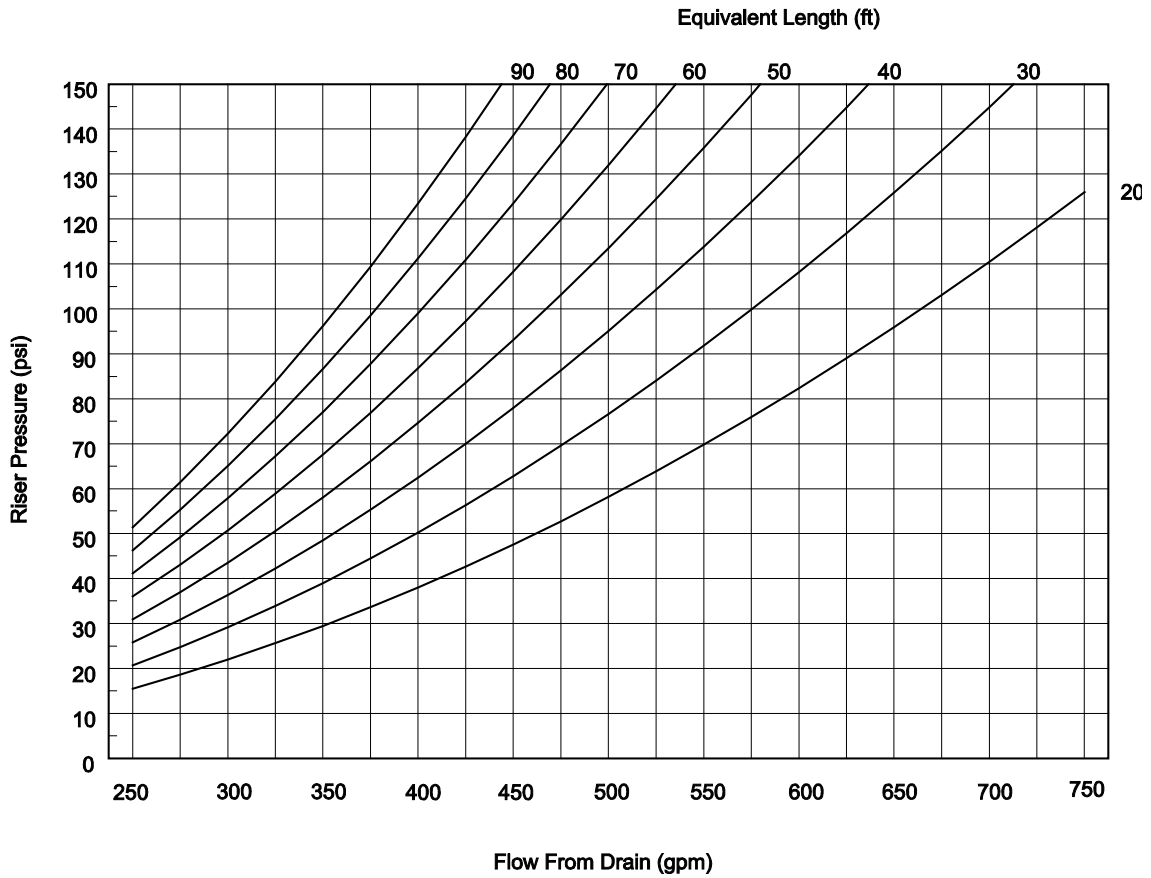

Figure 1. Flow Through 2 in. (50 mm) Drains.
- Using Figure 1, read horizontally across at the riser gauge residual pressure to the curve indicating the equivalent length of the drain. It is acceptable to interpolate where necessary. A vertical line from this intersection will indicate the flow from the drain.
The curves in Figure 1 have been developed by calculation and test. By following the above instructions and the parameters previously indicated, it is possible to establish a flow with an accuracy that is within acceptable limits ($\pm 5\%$).
The flow vs. riser pressure curves for several equivalent lengths are plotted in Figure 1 for easy reference and can be used to determine the drain flow by knowing only the riser gauge reading and the equivalent length and outlet configuration of the 2 in. (50 mm) drain.